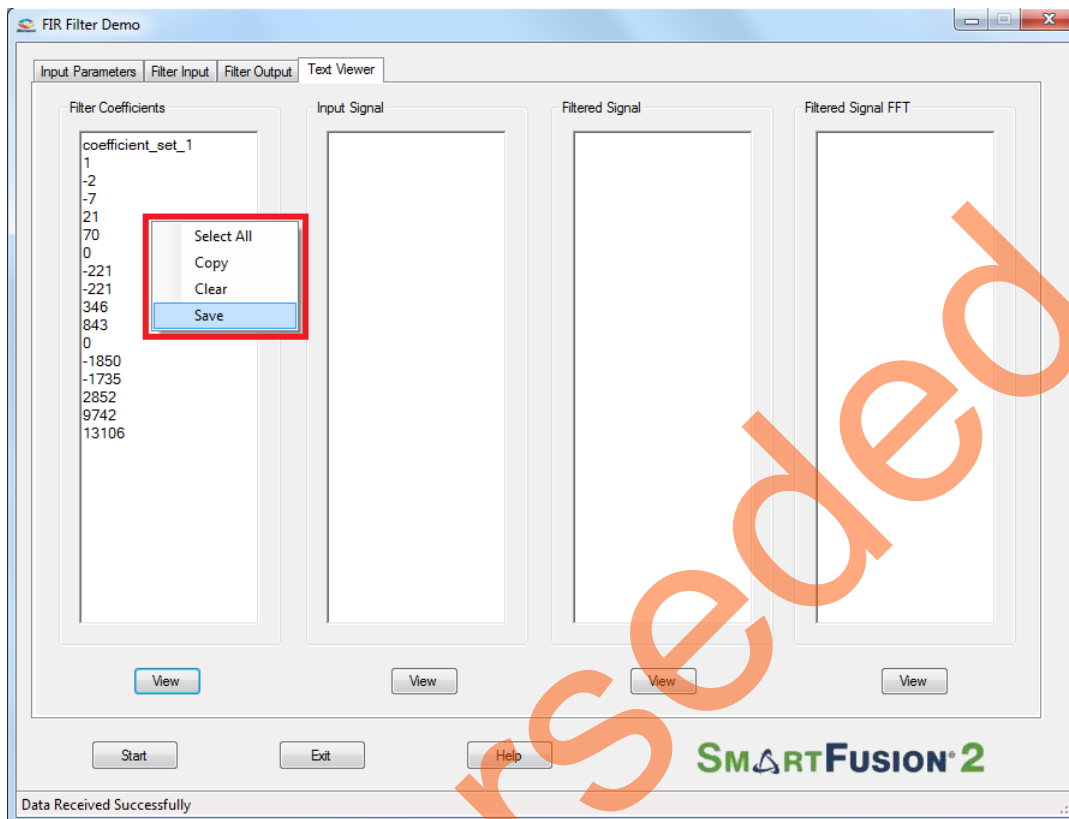

Figure 24 • Text Viewer: Coefficients Save Options
8. To save the coefficients as a text file, right-click the **Filter Coefficients** window, it shows different options, as shown in Figure 24. Now click **Save**. Select **OK** to save the text file.